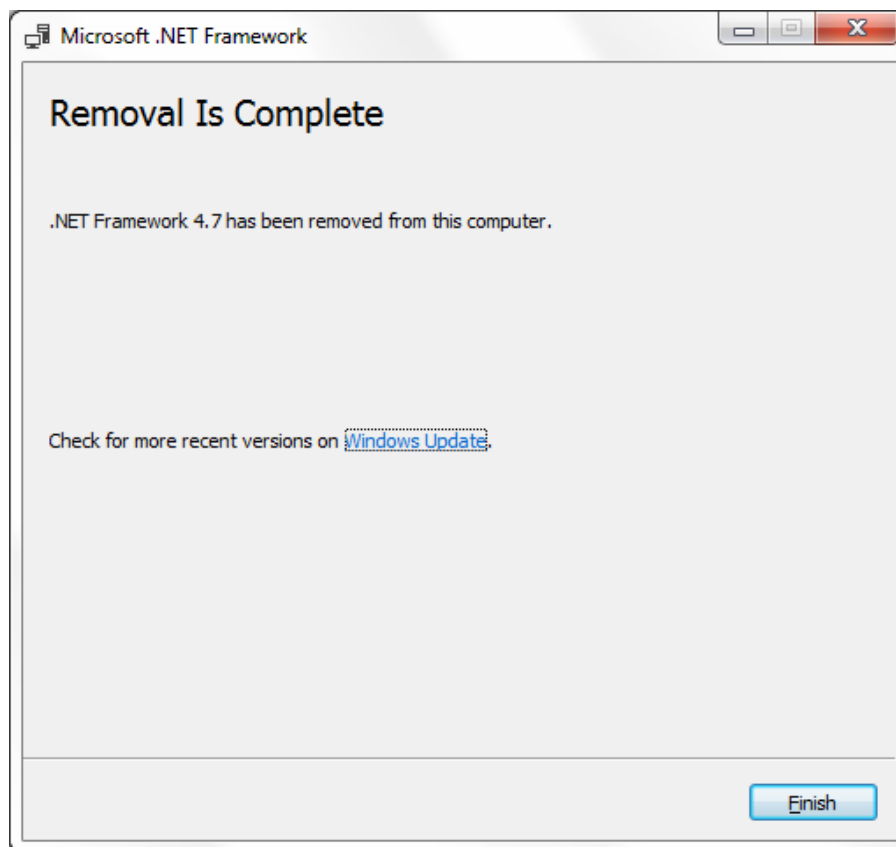

Figure III.1.12: Uninstallation of Microsoft .NET 4.7 is finished.
- Close the uninstallation process (see Figure III.1.12)